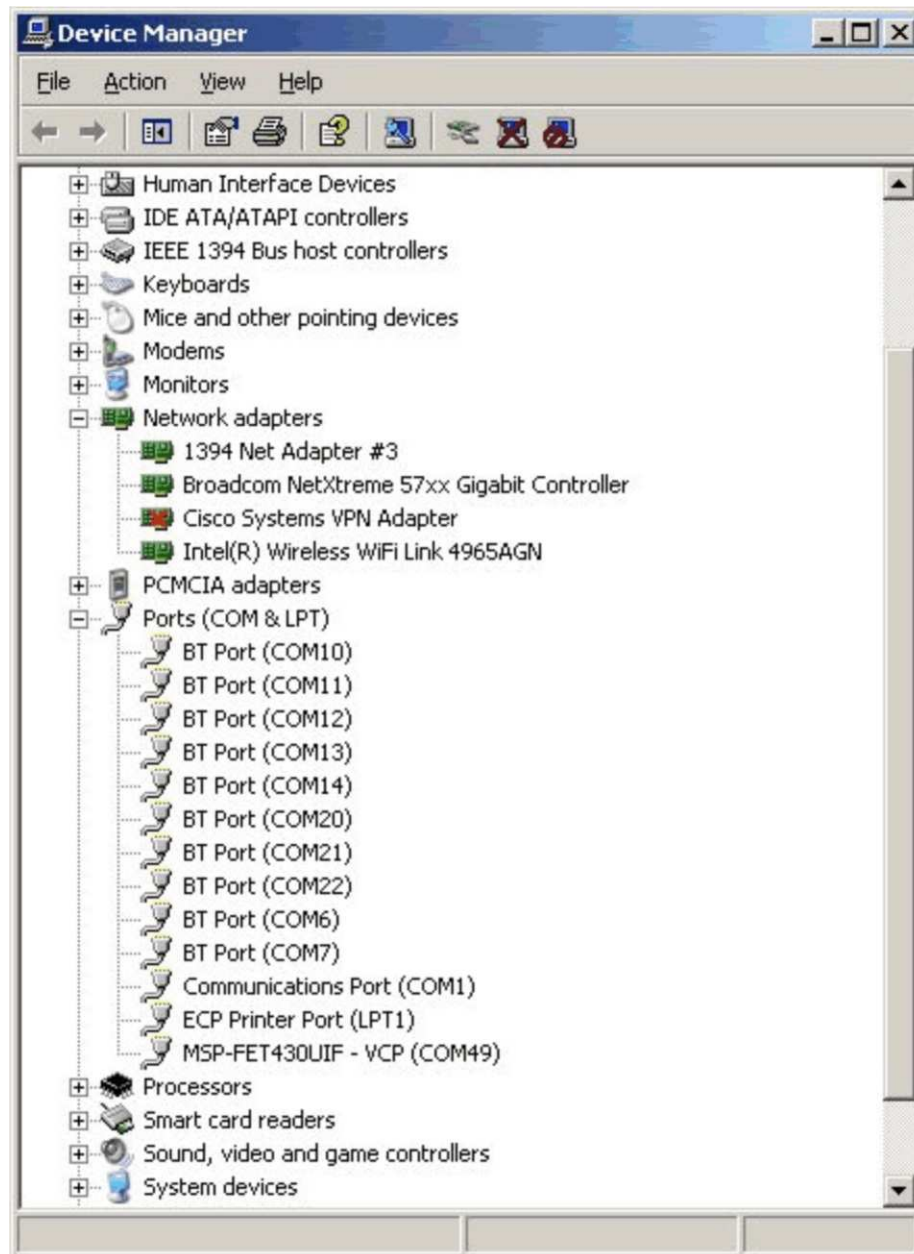
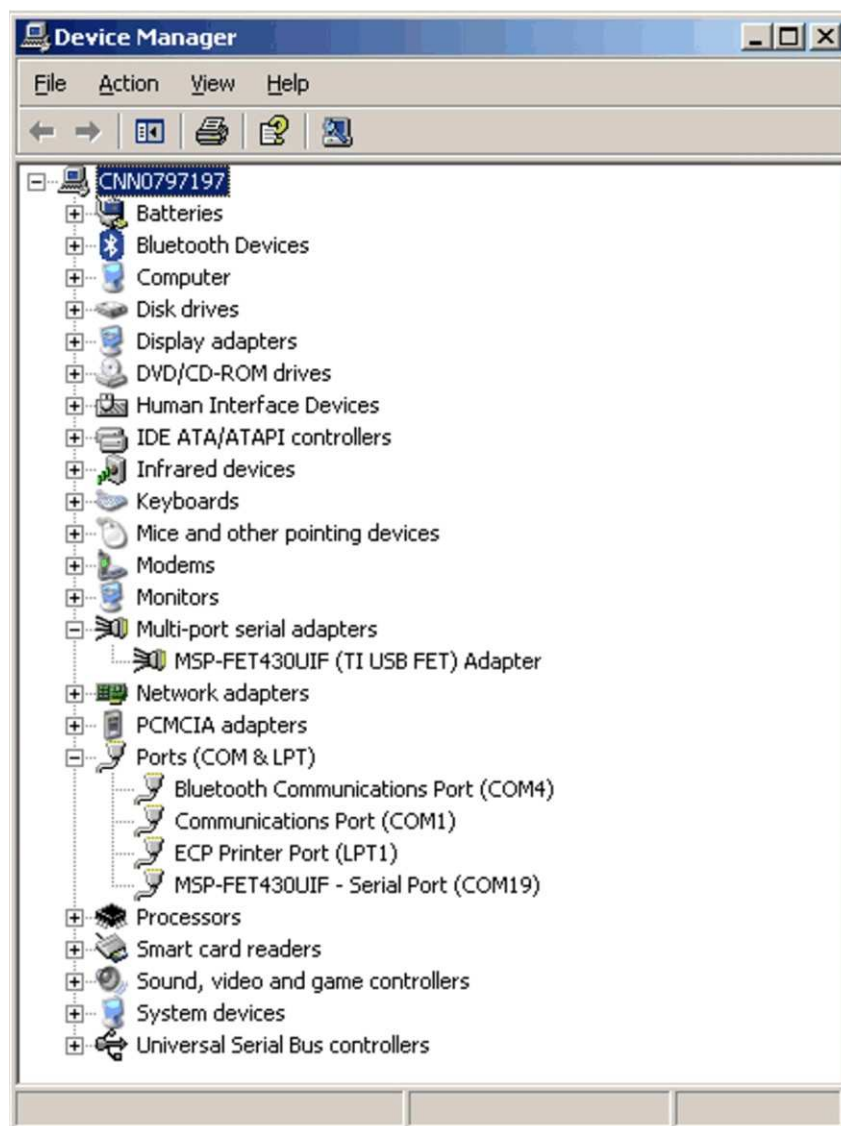
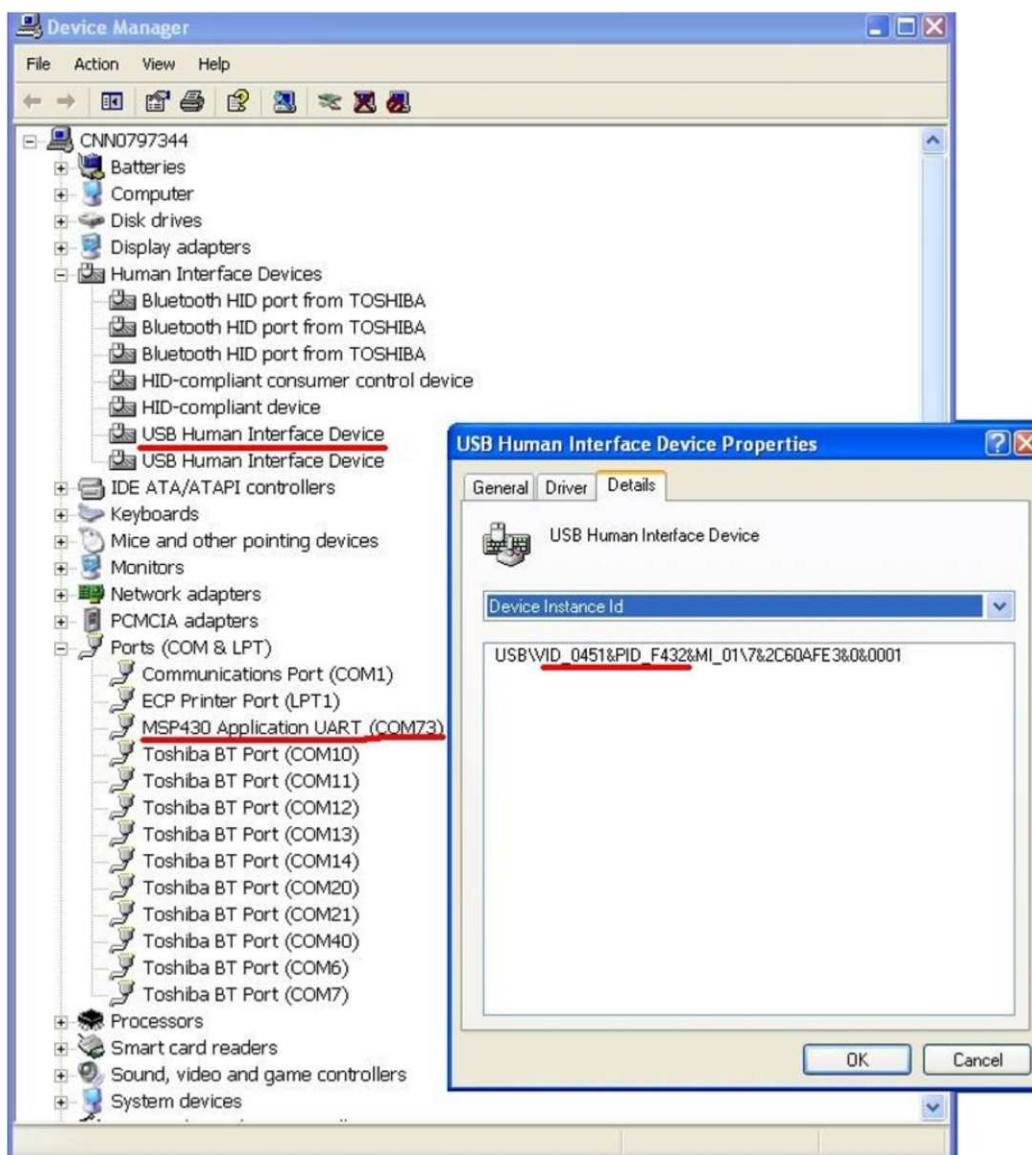

Figure C-3. Device Manager Using USB Debug Interface using VID/PID 0x2047/0x0010
Figure C-4. Device Manager Using USB Debug Interface with VID/PID 0x0451/0xF430
Figure C-5. Device Manager Using USB Debug Interface with VID/PID 0x0451/0xF432
8. The USB debug interface is installed and ready to use. The Device Manager lists a new entry as shown in Figure C-3, Figure C-4, or Figure C-5.